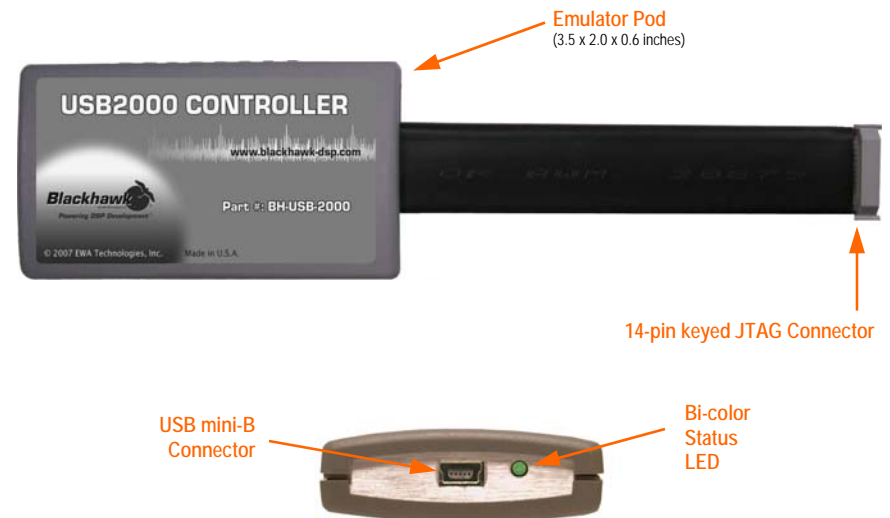

FIGURE 1—USB2000 JTAG Emulator (top & side views)
2. Then attach the other end of the USB cable (mini-B connector) to the USB connector of the **USB2000** Controller (see Figure 1).
6. You can now attach the controller's JTAG cable assembly (the 14-pin, 2x7 JTAG connector shown in figure 1) to the corresponding header on the target board. Make sure the target is **not powered** when connecting!